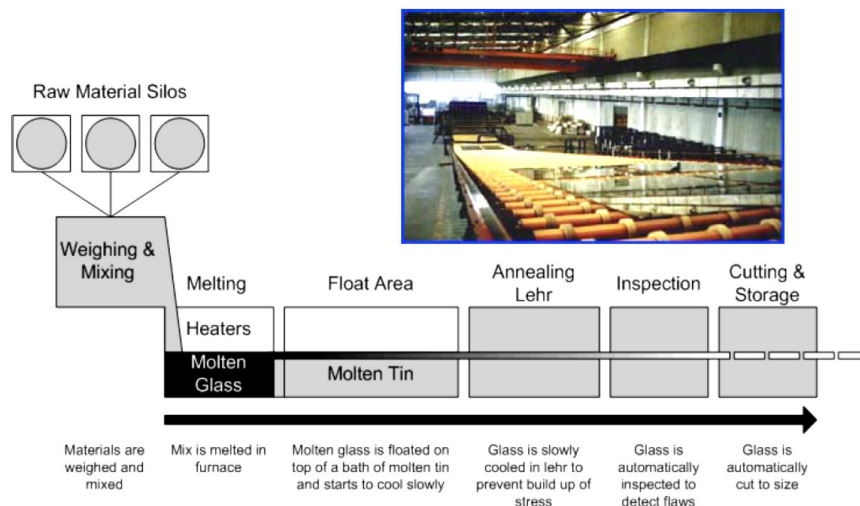

Figure 1 – Float glass forming process
- (ii). Figure 1 illustrates the float glass forming process. Conduct a process mapping for this operation by identifying two manipulated inputs, two disturbance inputs, and two output variables.
- (3). (a). Elucidate three control objectives that can be achieved through process control, using the float glass forming process illustrated in Figure 1 as an example.